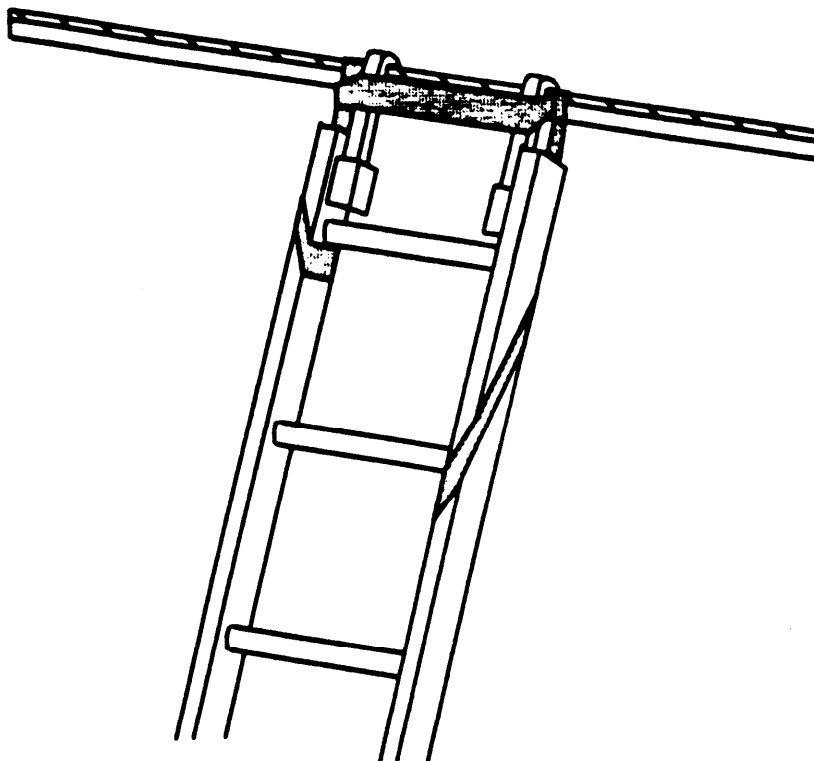

Fig. 7 - Placing the Top-Laddermate on Ladder With Hooks *ON* Strand
8.03 Securing The Ladder To Suspension Strand - With Hooks *On* Strand (Fig. 7)